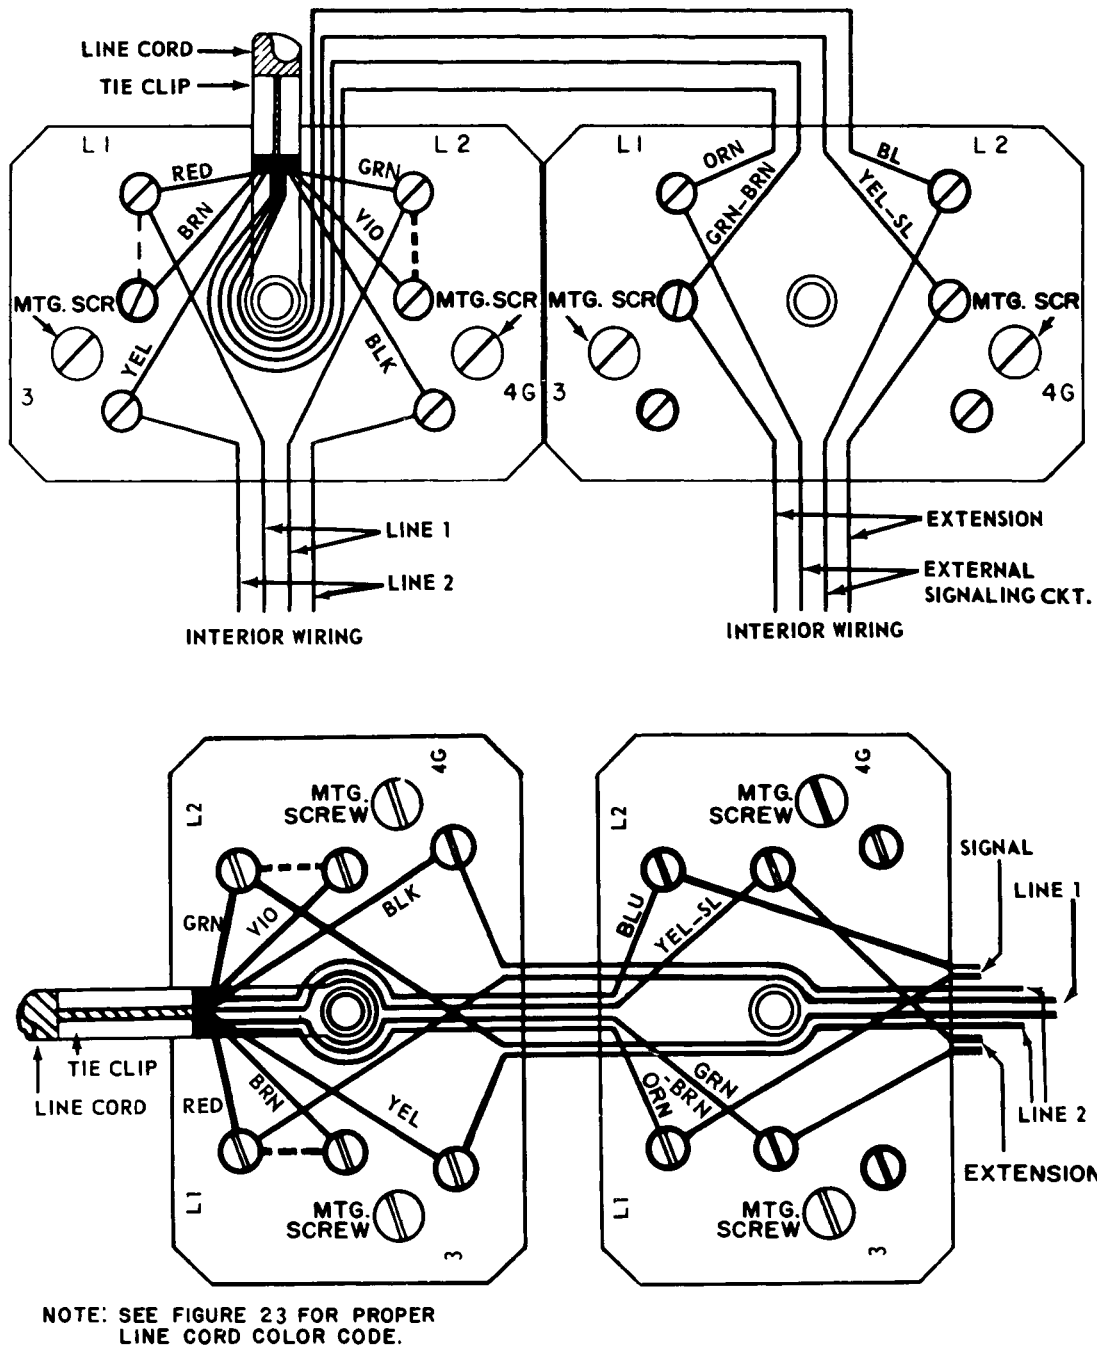

Figure 14. Standard terminal block wiring for manually-adjusted Type 85C telephones.
4.2 Manually-adjusted Type 85C telephones are supplied with two 6-terminal, terminal blocks. Figure 14 illustrates two methods of connecting line cord wires and interior wires.